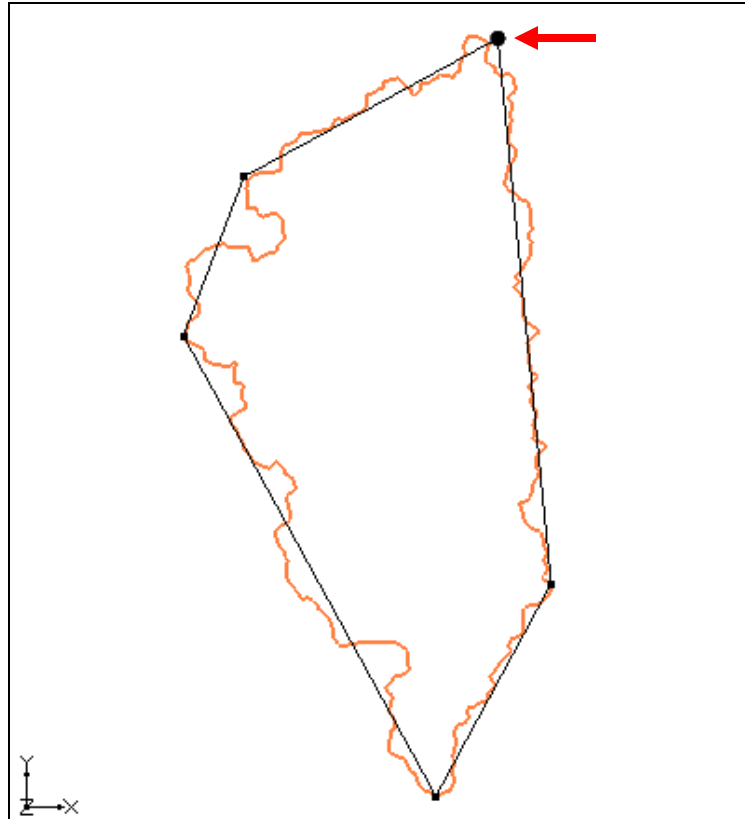

Figure 19 Creating an arc for the watershed boundary
3. Using the **Create Arc**  tool, create a simple arc as shown in Figure 19 by clicking in the Graphics Window. Click on the starting point (indicated by red arrow in Figure 19) to close the arc to form a polygon. Hit the *Backspace* key to remove the last point clicked.